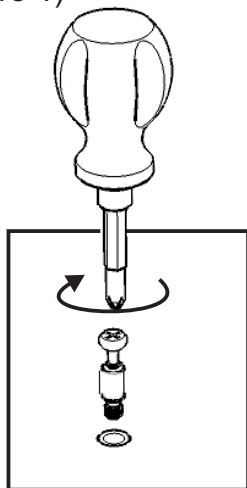

Figure 1
Put Cam Lock Screws into the pre-drilled holes of Side Panel (A), (C) and Middle Panel (B) and tighten. (see Figure 1)